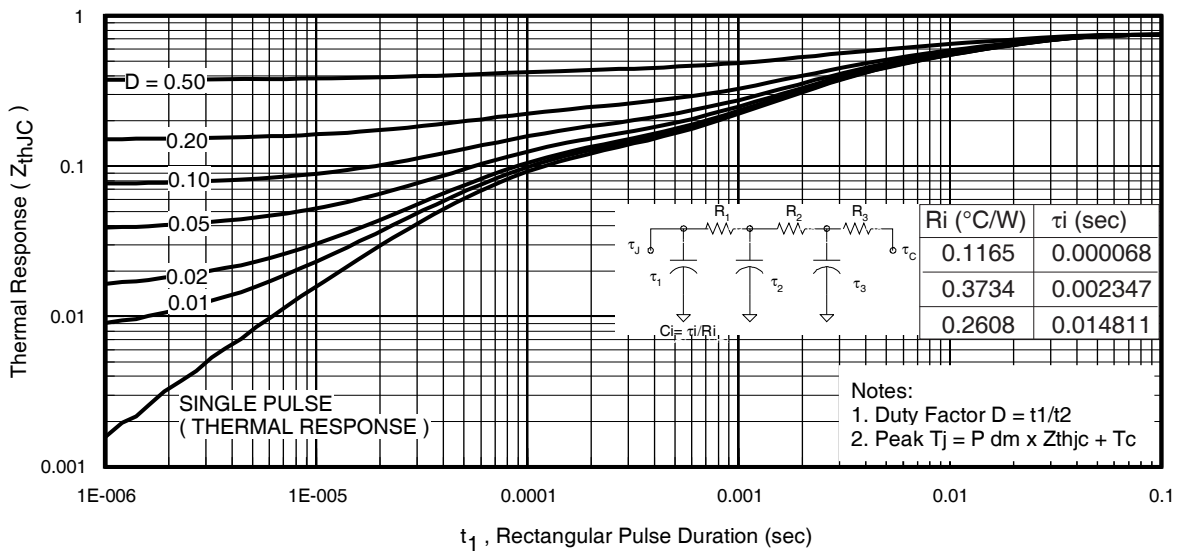
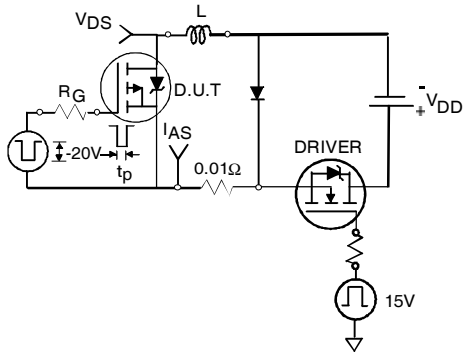

Fig 11. Maximum Effective Transient Thermal Impedance, Junction-to-Case
Fig 12a. Unclamped Inductive Test Circuit
- ① Repetitive rating; pulse width limited by max. junction temperature. (See fig. 11).
- ② Limited by T_{Jmax} ; starting $T_J = 25^\circ\text{C}, L = 0.16\text{mH}$ $R_G = 25\Omega, I_{AS} = -42A, V_{GS} = -10V$. Part not recommended for use above this value.
- ③ Pulse width $\leq 1.0\text{ms}$; duty cycle $\leq 2\%$.
- ④ $C_{oss\ eff.}$ is a fixed capacitance that gives the same charging time as C_{oss} while V_{DS} is rising from 0 to 80% V_{DSS} .
- ⑤ Limited by T_{Jmax} , see Fig.12a, 12b, 15, 16 for typical repetitive avalanche performance.
- ⑥ This value determined from sample failure population. 100% tested to this value in production.
- ⑦ This is applied to D²Pak, when mounted on 1" square PCB (FR-4 or G-10 Material). For recommended footprint and soldering techniques refer to application note #AN-994.
- ⑧ R_θ is measured at T_J approximately 90°C
3. Equation below based on circuit and waveforms shown in Figures 12a, 12b.
$Z_{thJC}(D, t_{av})$ = Transient thermal resistance, see figure 11)